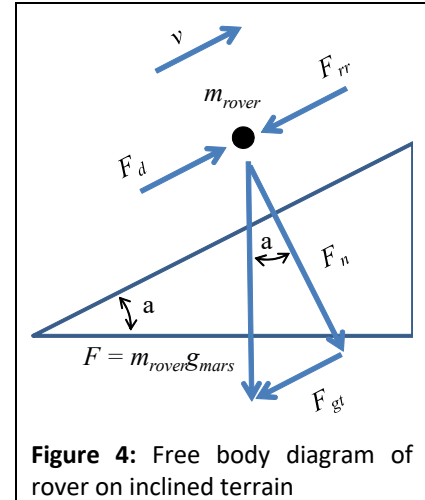

Figure 4: Free body diagram of rover on inclined terrain
External forces retard the progress of Marvin as it moves across the Martian landscape (see Figure 4). The two main forces you must consider are (1) gravitational and (2) rolling resistance. (In general, a body in motion will experience aerodynamic drag, which is a viscous retarding force. However, Marvin will travel slowly enough that this force is negligible.)